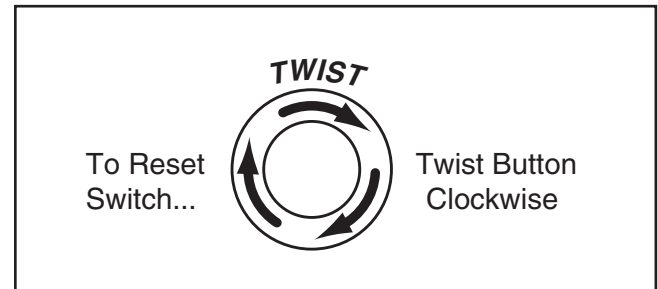

Figure 10. Resetting the switch.
5. Push the emergency stop button in, then twist it clockwise so it pops out. When the emergency stop button pops out, the switch is reset and ready for operation (see **Figure 10**).